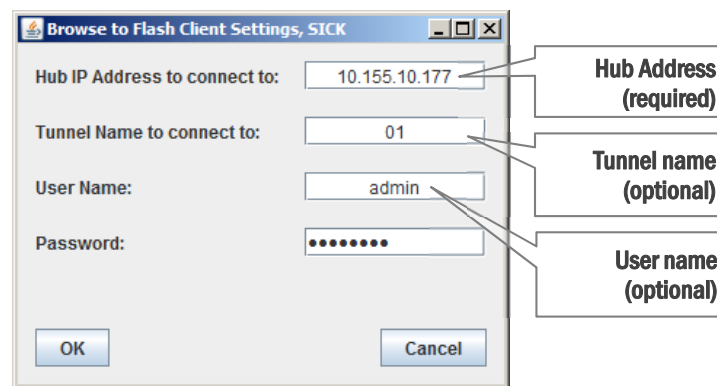

Figure 14-3: Sample Configuration of Flash Client Settings
5. The **Tunnel Name to connect to** field will be blank when launched for the first time. Enter the id (name) of the tunnel to display by default. In Figure 14-3, the tunnel id used is **01**.